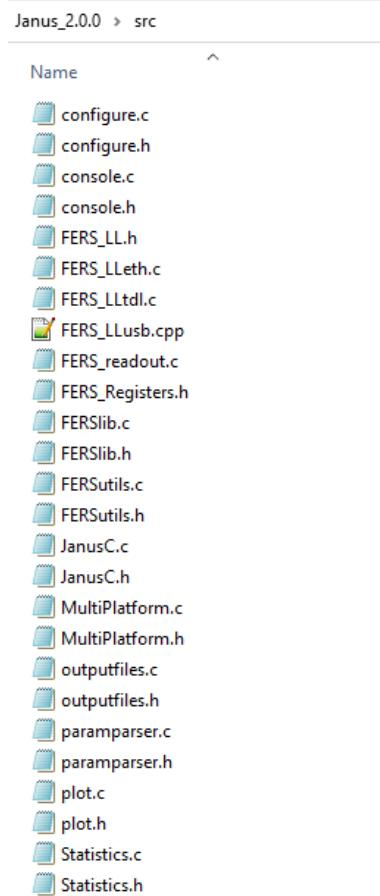

Fig. 2.3: C-source and header files. The path is visible in the top bar menu.
- **src:** folder containing the software C-source and header files (see **Fig. 2.3**).